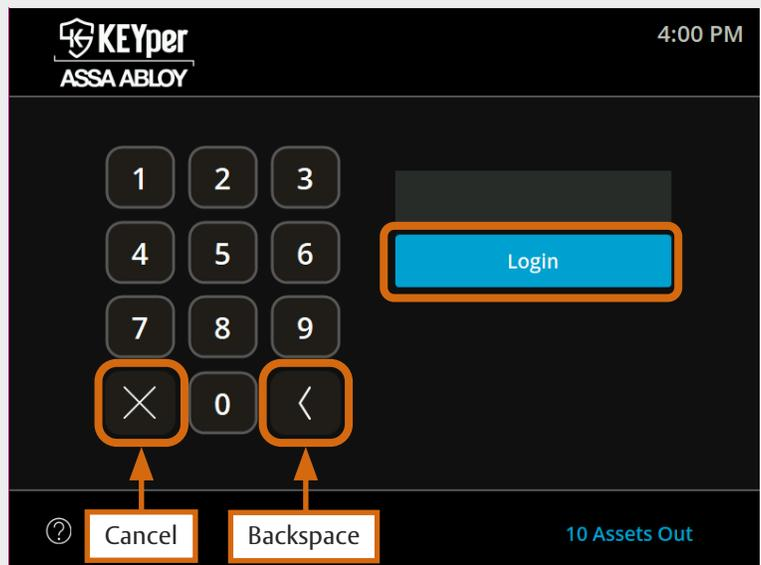

Fig. 15 – Login screen with PIN login buttons indicated
2. Press **Login**, as shown in Fig. 15.
- 🔑 If you press a wrong number, use **backspace** (left arrow) to delete the number, or clear all your numbers by pressing **cancel** (X).